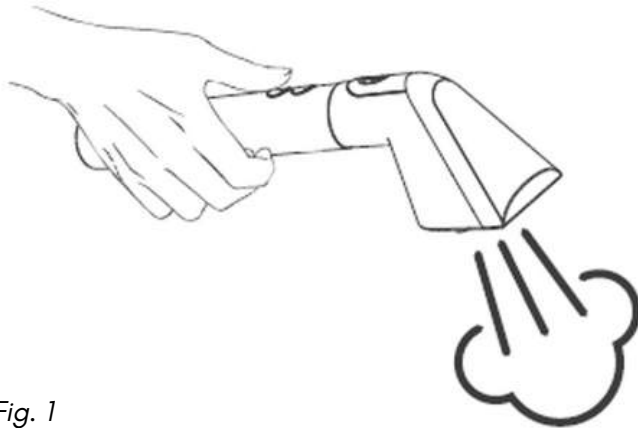

Fig. 1
1. The water spray/steam button is used for releasing steam under "Steam clean mode" and "Steam sterilize mode" (see Fig.1).